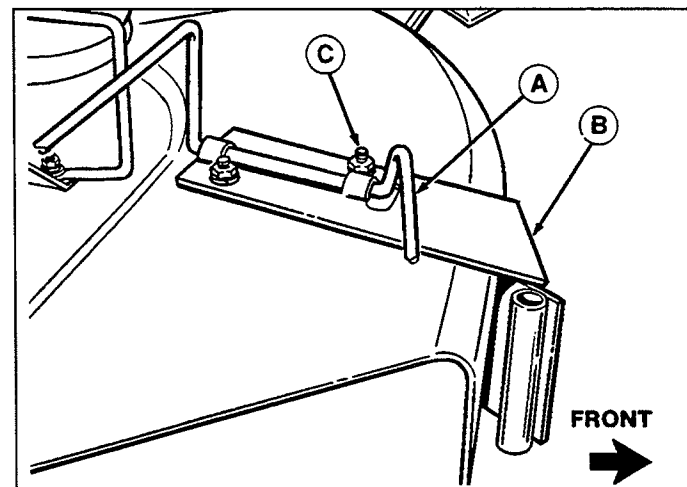

Figure 5.
9. See figure 5. Install the new deflector support rod (A) underneath the pivot bracket (B) and install bracket to deck. Secure bracket with two carriage bolts (C), installed from underneath deck.